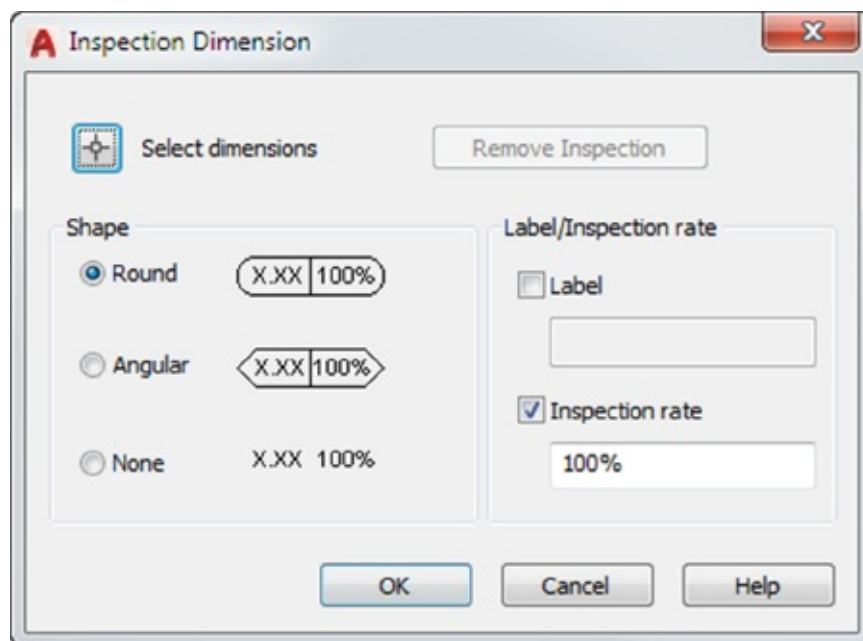

FIGURE 11.43 The Inspection Dimension dialog box
1. Choose Inspect from the Dimensions panel or type **Diminspect**↵. The Inspection Dimension dialog box appears (see Figure 11.43).